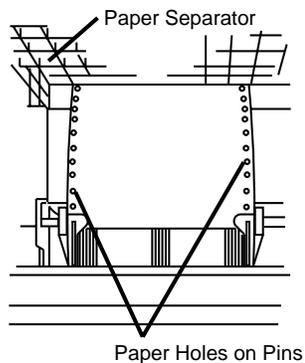

Figure 6-12. Model 602 Paper Alignment
- 11.6. Place a stack of paper beneath the ROP, and pull the paper through the opening between the ROP and the rear cover. See Figure 6-12. Place the first two holes in the paper on each side over the tractor pins.